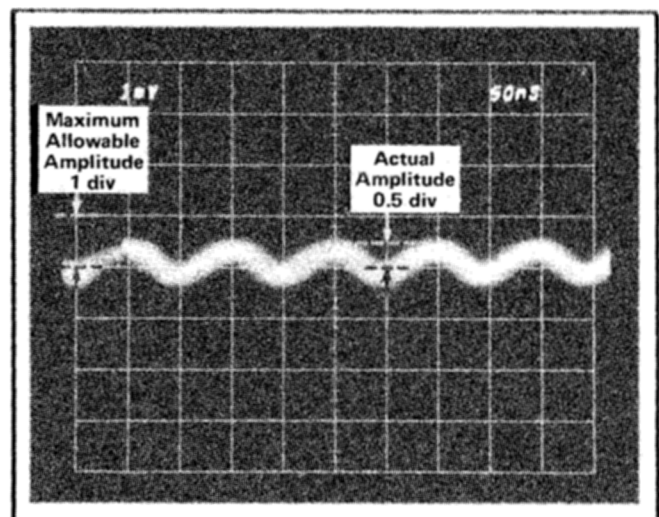

Fig. 5-15. Measuring the peak-to-peak amplitude of a common mode difference signal. Vertical deflection factor: 1 mV/div; sweep rate, 0.5  $\mu$ s/div.
f. CHECK—One division or less display amplitude. This is equivalent to a CMRR of 10,000:1 or greater. Measure the peak to peak excursion, excluding the trace thickness, as shown in Fig. 5-15.